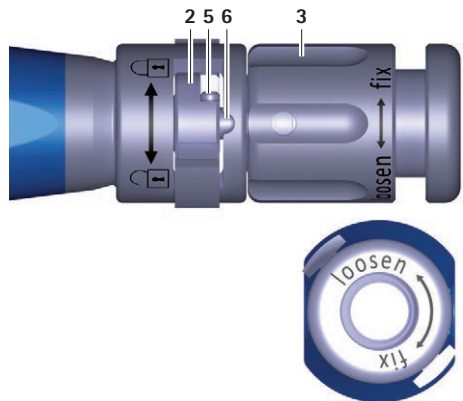

Fig. 1 Close-up view of the insertion instrument, switch open
- ▶ Turn the rotary nut 3 on the insertion instrument A counterclockwise ("loosen" direction) to push the rod 6 forward, see Fig. 1.
- ▶ Turn the switch **2** to the left (direction ) , see Fig. 1.
- ▶ Check the position for coupling the insertion instrument **A**, see Fig. 1.